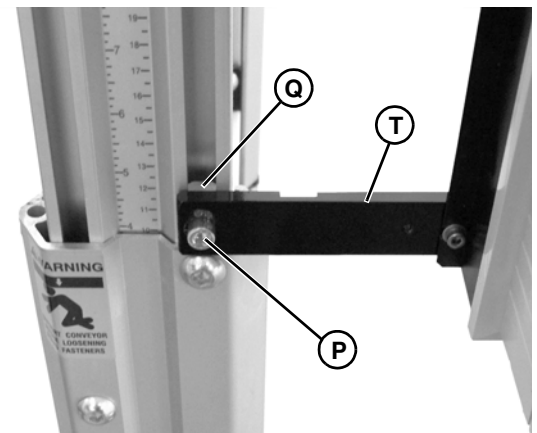

Figure 19
2. Install T-bar (Figure 19, item Q) into stand leg T-slot. Attach controller lower mounting bar (Figure 19, item T) with screw (Figure 19, item P).